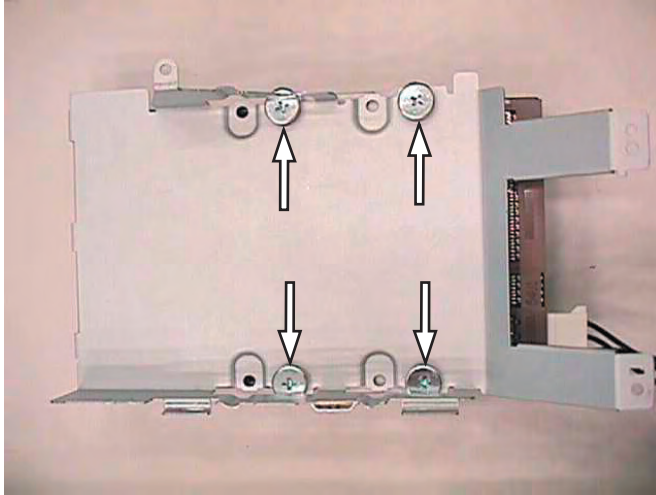

Figure 4-6
- 2) Remove 4 screws 285 to separate the Bracket HDD 192 and Bracket HDD suspension 222 from the HDD as shown in Figure 4-6.